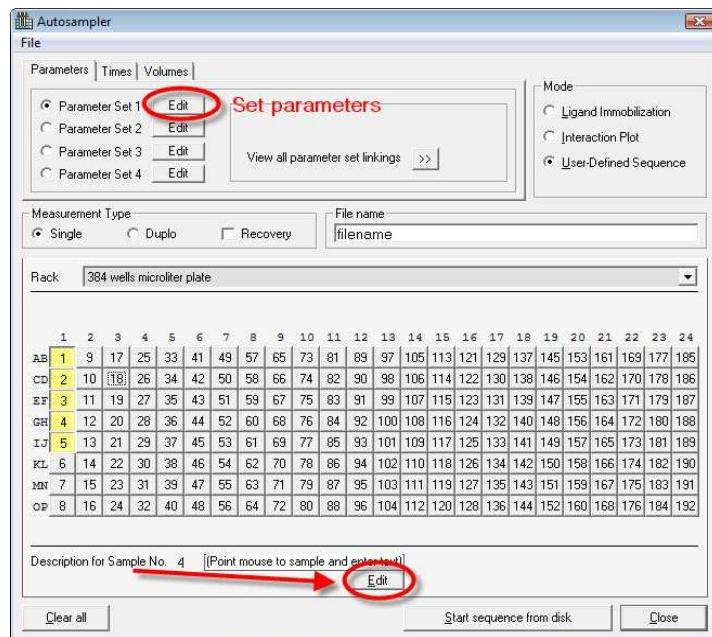

Figure 3.24 – The tab sheet ‘Parameters’.
- In the right upper corner of the autosampler window, select the ligand immobilization mode. To define the sample positions, first select the sample definition in the lower right corner of the window and then select the position on the microtiter plate. The selected positions will appear in yellow. To edit the parameter settings, click on the Edit button next to the parameter set under the parameter tab. (Figure 3.24)